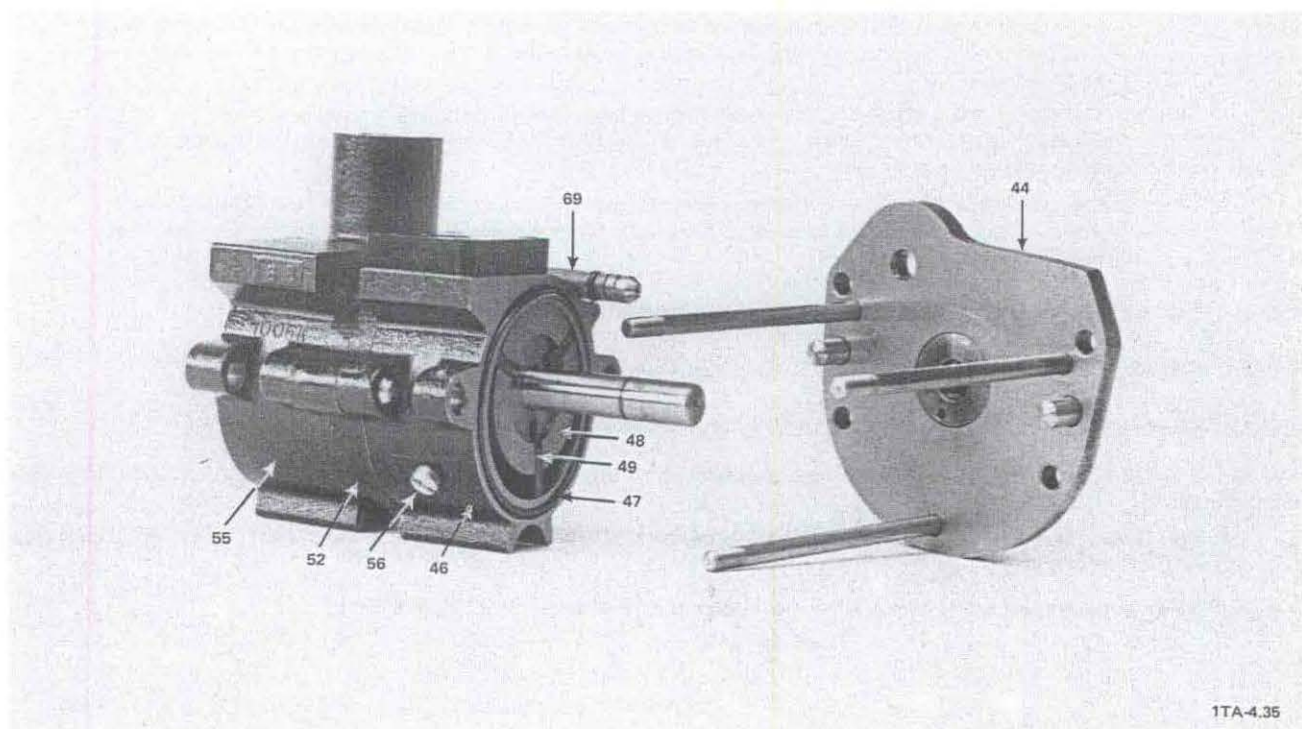

Figure 5-8. Second Stage Pump Cylinder (D2A Pump Model Shown)
- C-13** Remove the front end plate (44) from the motor side of the shaft (see Figure 5-8).
- C-15** Remove the second stage pump cylinder (46) to expose the second stage rotor (48). Remove the O-rings (47) from both sides of this cylinder (see Figure 5-8).
- C-16** Repeat Step C-11, except remove the vanes (49) from the second stage rotor (48). (See Figure 5-8).
NOTE: For use during reassembly, the ends of the threaded studs (62) that have the shorter threaded section screw into the front end plate (44) (see Figure 5-8). During reassembly, the threaded studs should be screwed until they are tight in the front end plate.